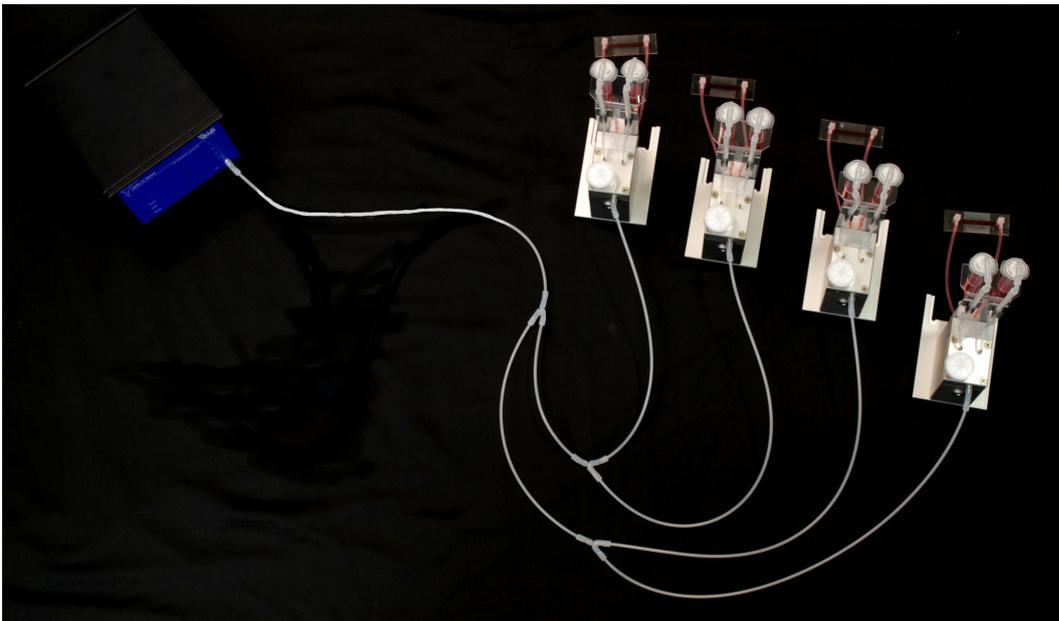

Figure 39: Connection of the ibidi Pump and four Fluidic Units via the Splitter Set for 4 Fluidic Units.
- Connect the Fluidic Units with the pump via the Splitter Set as shown in Figure 39 (example with 4 Fluidic Units).